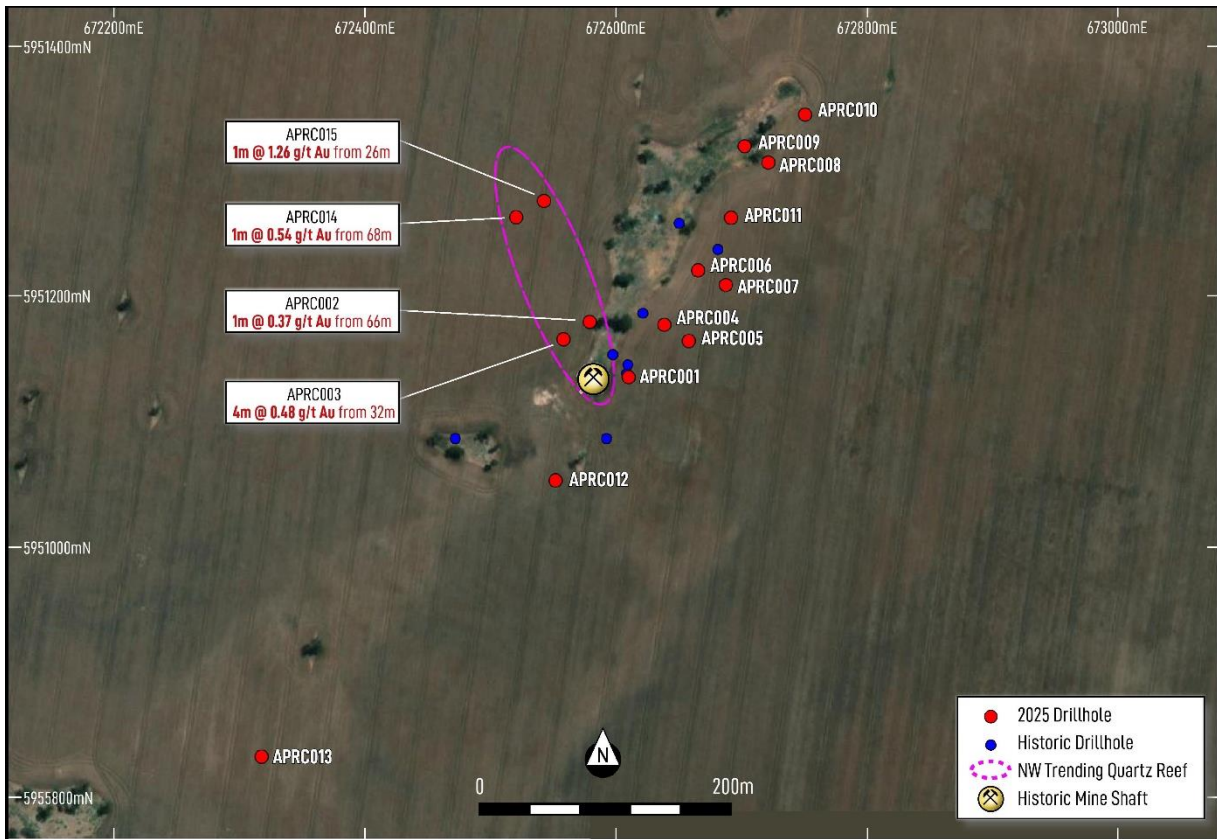

Figure 2. Avon Plains Drilling Program showing significant results at the Northwest Trend.
A total of 15 reverse circulation (RC) holes were drilled, with 14 of 15 holes intersecting one or more quartz reefs/vein systems. The 4 holes in the northwest trend returned gold values above 0.3 g/t, with the following significant intercepts returned (Figure 2).